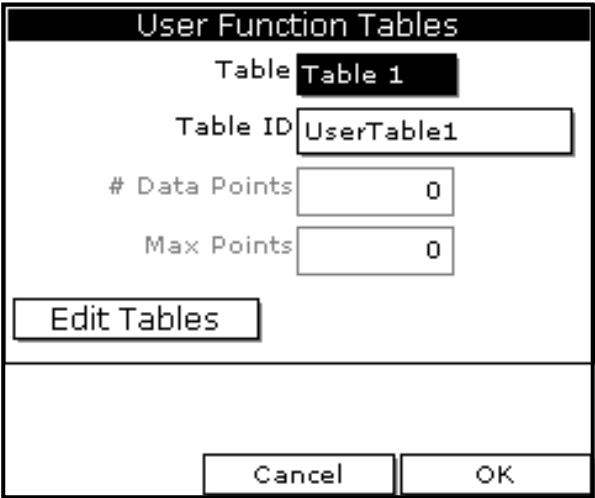

Figure 27: User Tables Window
- 3. Use the arrow key to scroll to User Tables and press **[ENTER]**. A screen similar to *Figure 27* appears.